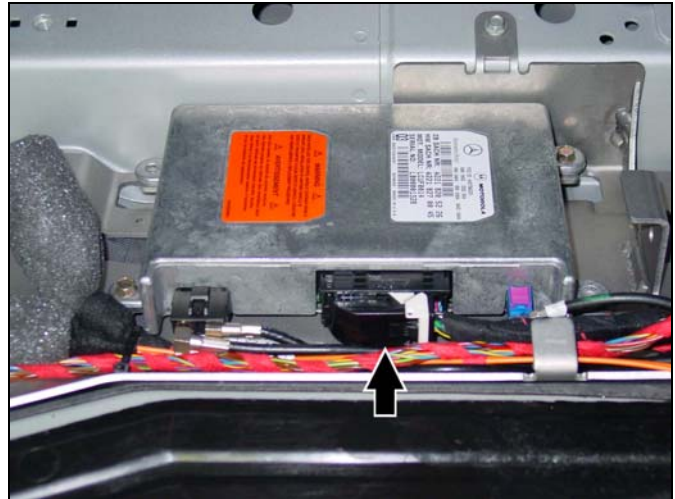

Figure 34
1. Disconnect the Tele Aid power supply connector from the Tele Aid control module (Figure 34).